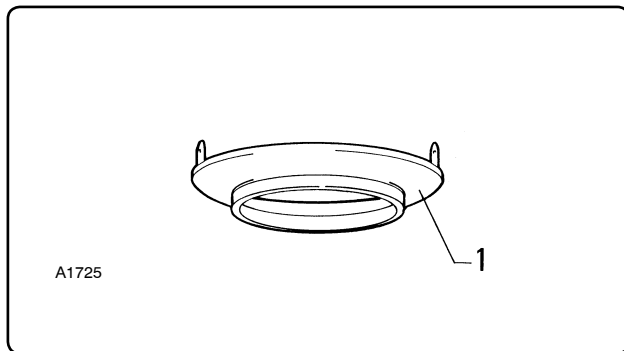

Fig. 6.10.1
6.10.1 -Removable separator (fig. 6.10.1)